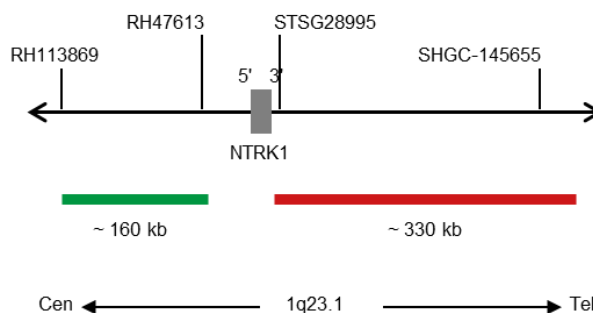

Fig. 1: SPEC NTRK1 Probe map (not to scale)
- Digoxigenin-labeled polynucleotides (~0.50 ng/μl), which target sequences mapping in 1q23.1\* (chr1:156,621,188-156,781,745) proximal to the NTRK1 breakpoint region (see Fig. 1).
- Dinitrophenyl-labeled polynucleotides (~0.75 ng/μl), which target sequences mapping in 1q23.1\* (chr1:156,854,527-157,186,293) distal to the NTRK1 breakpoint region (see Fig. 1).